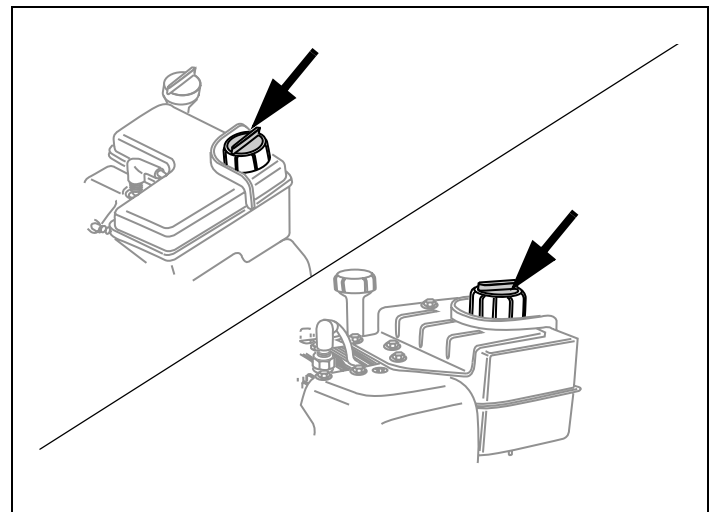

Figure 14. Possible Fuel Fill Cap Location(s)
3. Clean area around fuel fill cap and remove anti-splash fuel fill cap. See Figure 14.